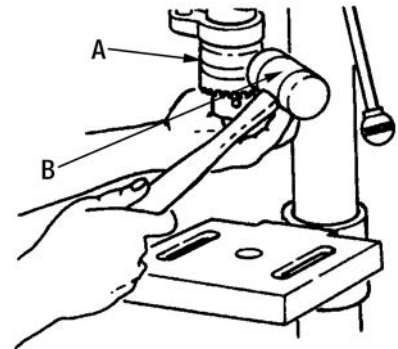

FIGURE 15
2. Carefully tap the chuck (A) Fig.15 with a mallet (B) in one hand while holding the chuck in the other hand to prevent the chuck from dropping when it is released from the spindle nose.